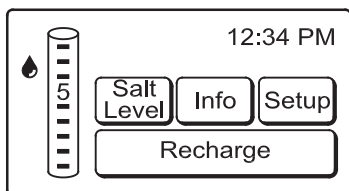

FIG. 37
1. Press the RECHARGE button at the bottom of the softener status screen (See Figure 37).